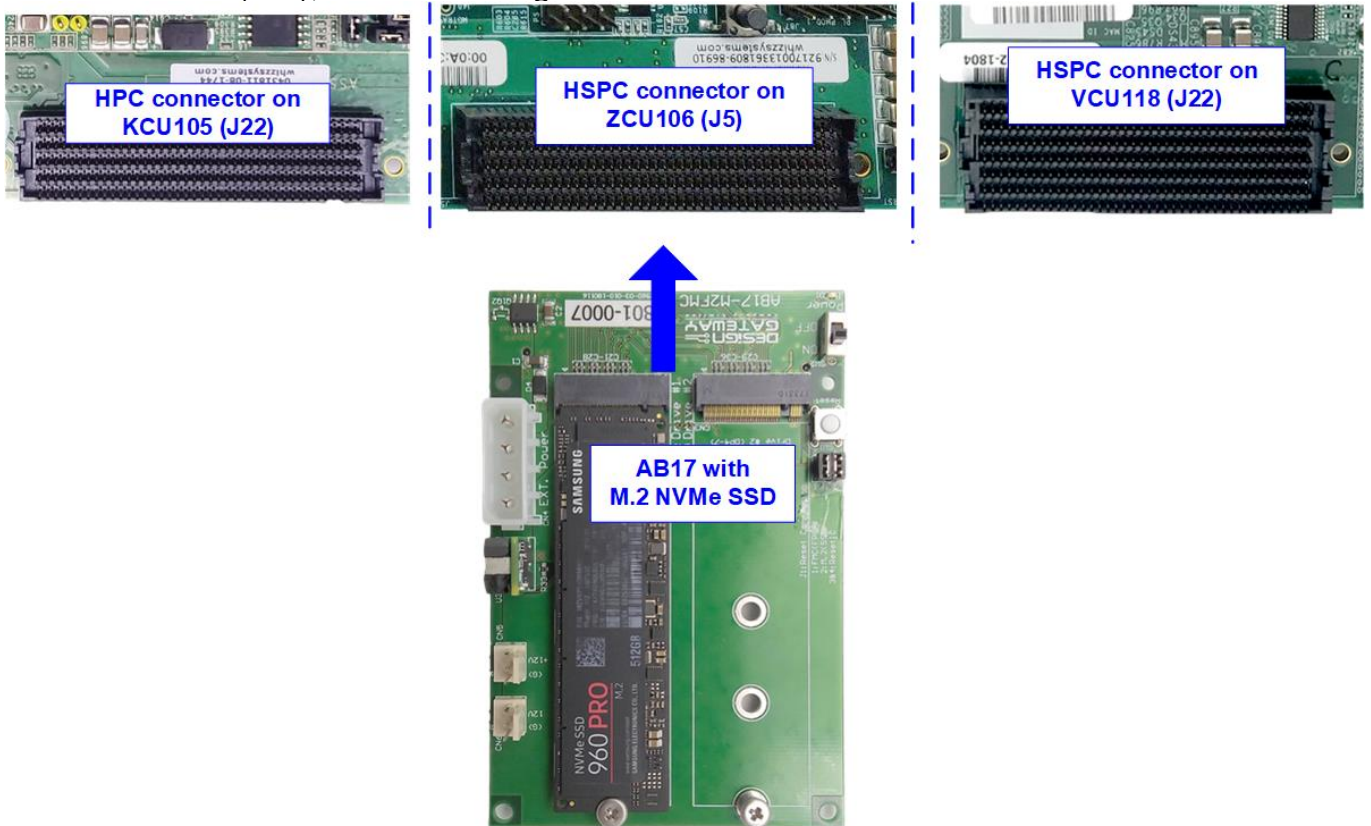

Figure 2-3 Connect AB17 to FPGA board
- 4) Connect AB17-M2FMC to HPC connector on KCU105(J22)/ZCU106(J5) or HSPC on VCU118 (J22), as shown in Figure 2-3.